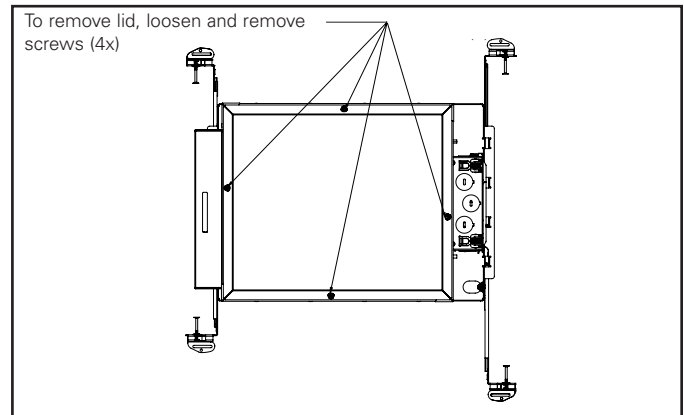

Figure 10.
8. For situations where the housing lid is accessible after housing installation, see figure 10 for removal.